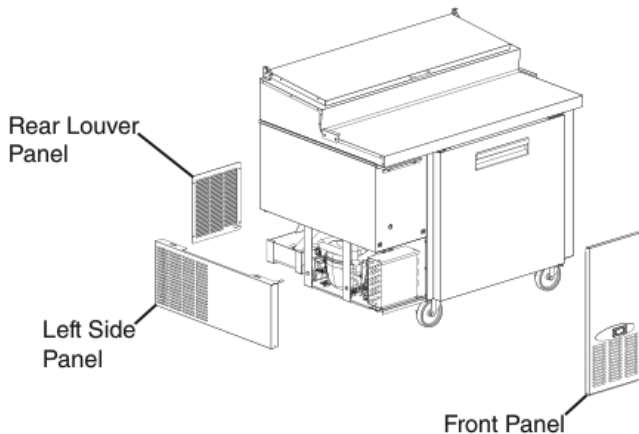

Fig. 1
- 4) Remove the front, left side, and rear louver panels. See Fig. 1. Next, remove the current condensate pan and condensate pan brackets as shown in Fig. 2 and discard, then remove the condensate drain hose. Note: Remove elbow from condensate drain hose for re-use, then discard condensate hose.